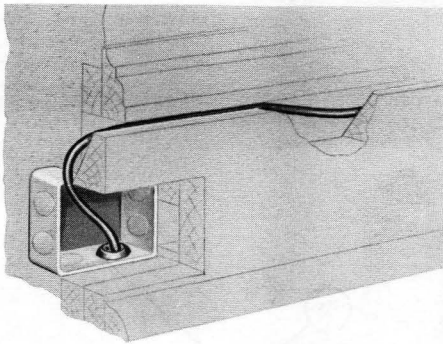

Fig. 5—Wiring From Conduit to Baseboard
- (a) Run wires along baseboards or on door or window casings so they will be inconspicuous as possible (Fig. 5 and 6).